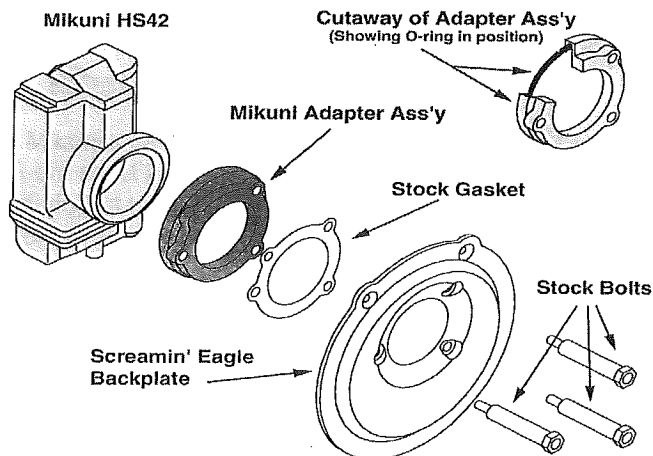

Figure 4
- Assemble the Mikuni adapter (see Fig. 4). Attach the adapter to the stock backplate using the provided screws. The stock screws are too long.
- The remainder of the Mikuni/Screamin' Eagle installation follows the Harley instructions. We recommend that you follow those directions to complete the air cleaner installation (Figure 4).